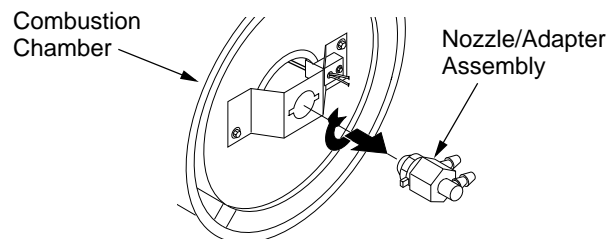

Figure 19 - Removing Nozzle/Adapter Assembly
4. Turn nozzle assembly 1/4 turn to left and pull toward motor to remove (see Figure 19).